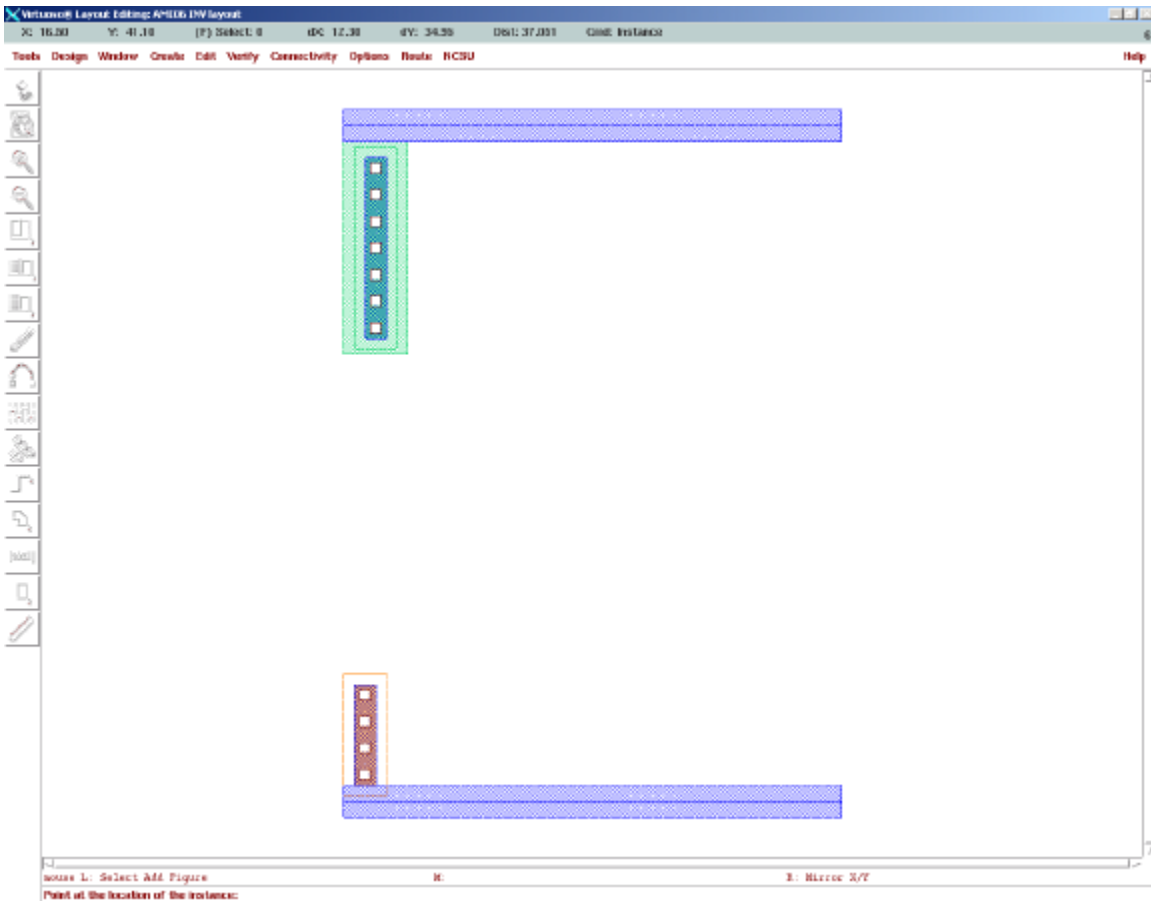

Figure 71: Placement of the ptap.
8. Stamp it down like in Figure 71.